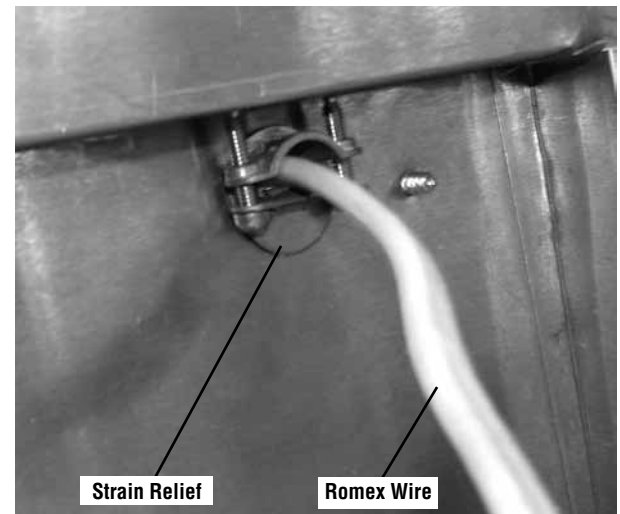

Figure 24 - Back Of Termination
- Refer to Figure 24 on Page 19 and install the electrical hardware on the ends of the Romex wiring. Male terminals on the Black and White wires, and ring terminals on the ground wire.